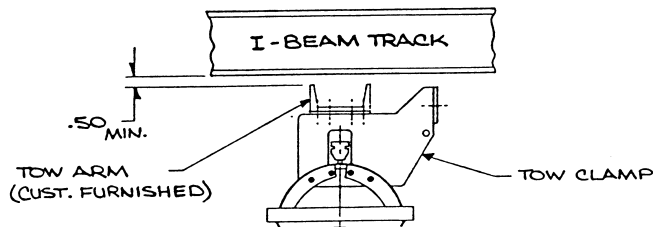

Fig. 2
1. A tow clamp is used in lieu of a tow trolley and connects directly to the customer's tow arm. (Fig. 2)